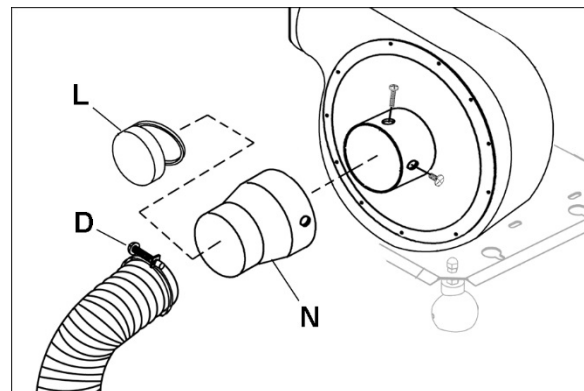

Figure 5-5
5. Push inlet adaptor (N, Figure 5-5) onto inlet port until the holes align, and secure with the provided self-tapping screws.
6. Press ring of inlet cap (L) onto adaptor. Press cap over inlet when inlet is not being used.
7. Place a 4-inch wire clamp (D, Figure 5-5) onto end of hose, and install hose to adaptor. Tighten wire clamp with screwdriver.